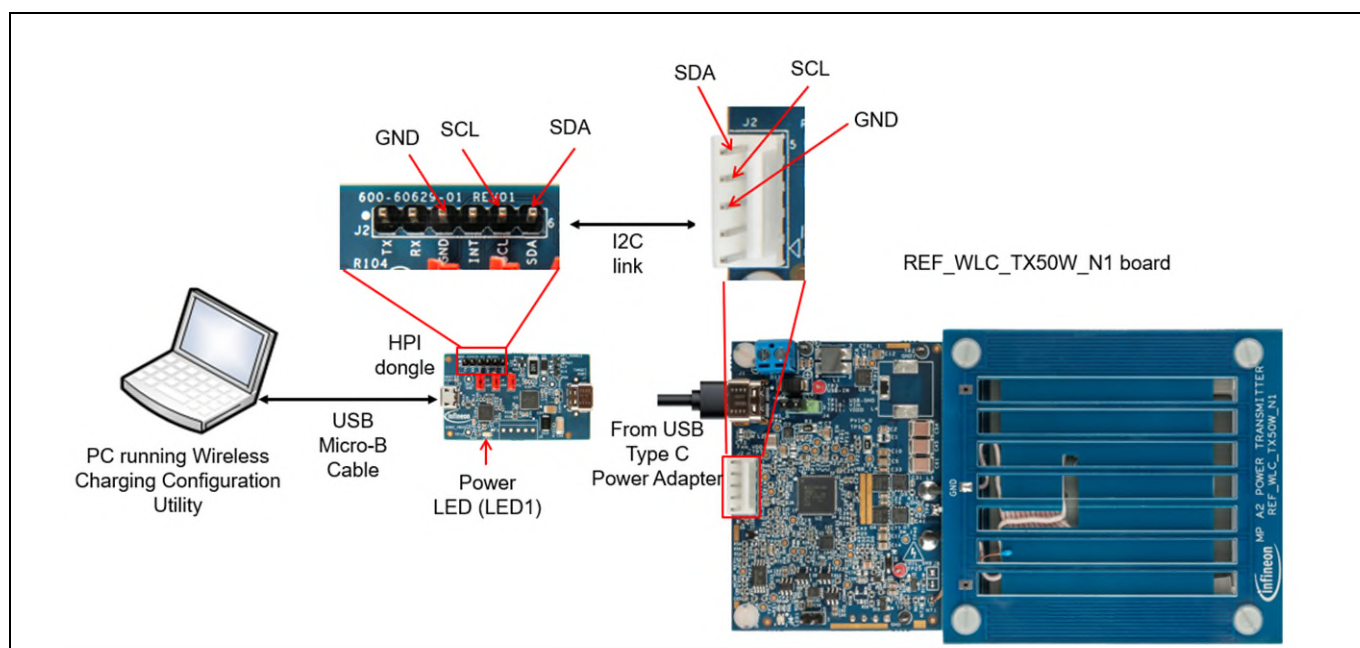

Figure 26 Wireless Transmitter to debugger I2C interface
5. Open the Wireless Charging Configuration Utility and connect the device over the I2C interface as shown in Figure 26.